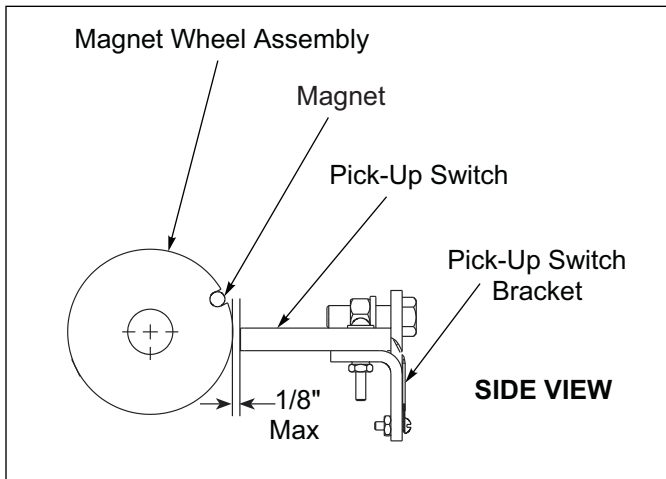

Figure 2-21: Pick-Up Switch Positioning
6. Adjust the Pick-Up Switch and Pick-Up Switch Bracket so the centerline of the Magnet Wheel Assembly and Pick-Up Switch are horizontally and vertically aligned with maximum 1/8" between the Magnet Wheel Assembly and Pick-Up Switch. Tighten all Screws. See Figures 2-21 and 2-22.